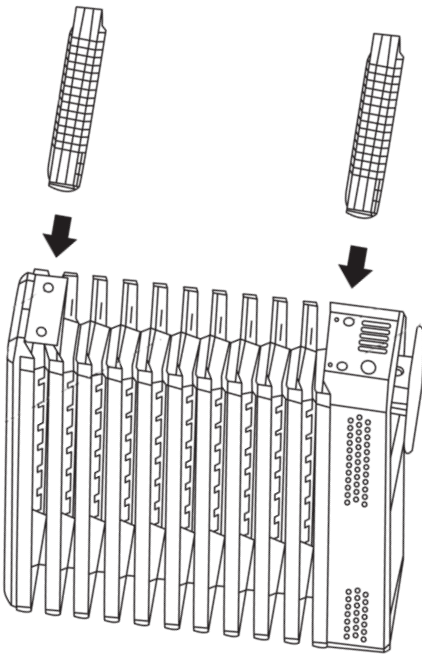

Fig. 1
2. As shown in Fig. 1, align the mounting holes on the castors with the screw holes, one at the bottom of the control panel and one at the bottom of the end radiator fin.